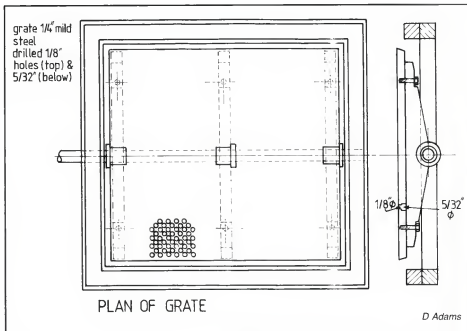

Figure 3
African loco *RED DEVIL*, but did you know about the *RED DRAGON*? I must confess that I didn't until I read this particular article. The *RED DRAGON* was a 2ft gauge (610mm) NGG16 Garratt (No. 141) owned by Alfred County Railway (SA). The article mentions the various modifications carried out on two particular Garratts, nos 141 and 155, both NGG16 class but only one was painted red. The piece that got my attention was about the fire grate. It's called the Pin Hole Grate, which, going by the description in this article, is the same grate that Keith Bradford has installed in his 5" gauge Fyansford Cement Co Garratt. See **Figures 3 and 4** and see *AME* issue 88, page 32 for a drawing showing size, spacing and layout of the holes.